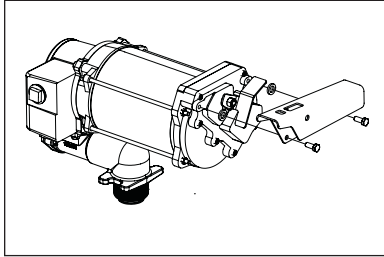

Figure 1
1. Remove the two (2) 1/4"-20 x 1/2" bolts and the two (2) flat washers from the switch coverplate.
- Align the bolts with the two threaded holes on the switch coverplate thread the bolts into the holes. Torque bolts to 45-60 in/lb (Figure 1).